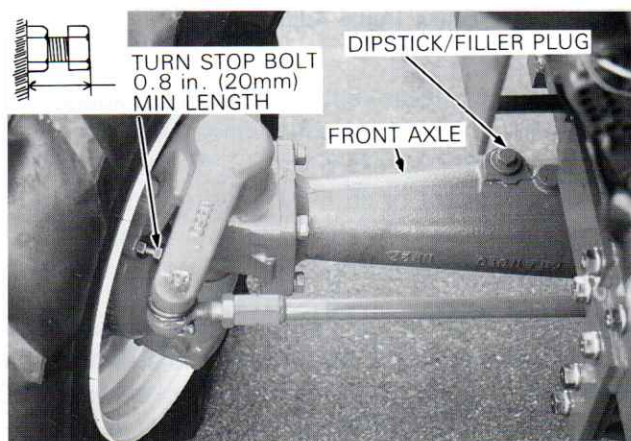

Figure 60 – Front Axle Oil Level Dipstick/Filler Plug
1. With the tractor standing level and the engine off, check the front axle oil level with the dipstick, Figure 60.
NOTE: To ensure correct steering operation the stop bolt, Figure 60, should protrude a minimum of 0.8 in (20 mm) from the casing.
3. Remove the dipstick/filler plug on the top, left side of axle housing, Figure 60, and fill with new oil of the type specified, page 30.